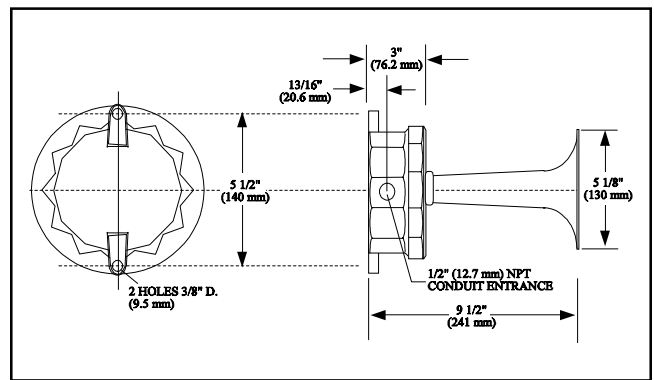
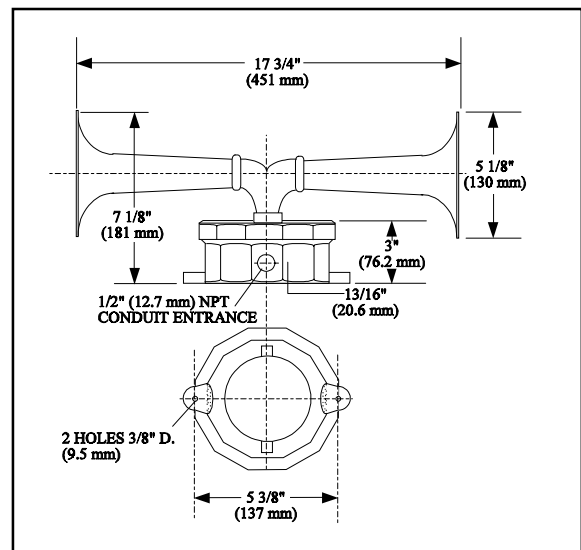

Figure 1. Single Projector Units (B-8526 and B-N-8546 Series)
Figure 2. Double Projector Unit (B-N-8590 and B-8599 Series)
The Edwards Catalog Series B-8526 and B-N-8546 (single projector, Figure 1) and B-N-8590 and B-8599 (double projector, Figure 2) units are weatherproof Adaptahorns in NEMA 4X Enclosures. The sound mechanism of each signal starts and stops instantly with current impulse. Both the single and double projector models are designed for use where a loud distinctive signal is needed, both indoors and outdoors. The Catalog Series B-N-8546 and B-N-8590 Adaptahorns are both UL listed and CSA certified and use a NEMA 4X enclosure.
1. Mount the horn assembly securely to a flat surface in the desired location with (2) screws through the 3/8" (9.5 mm) diameter holes in the housing (Figure 1 or 2).